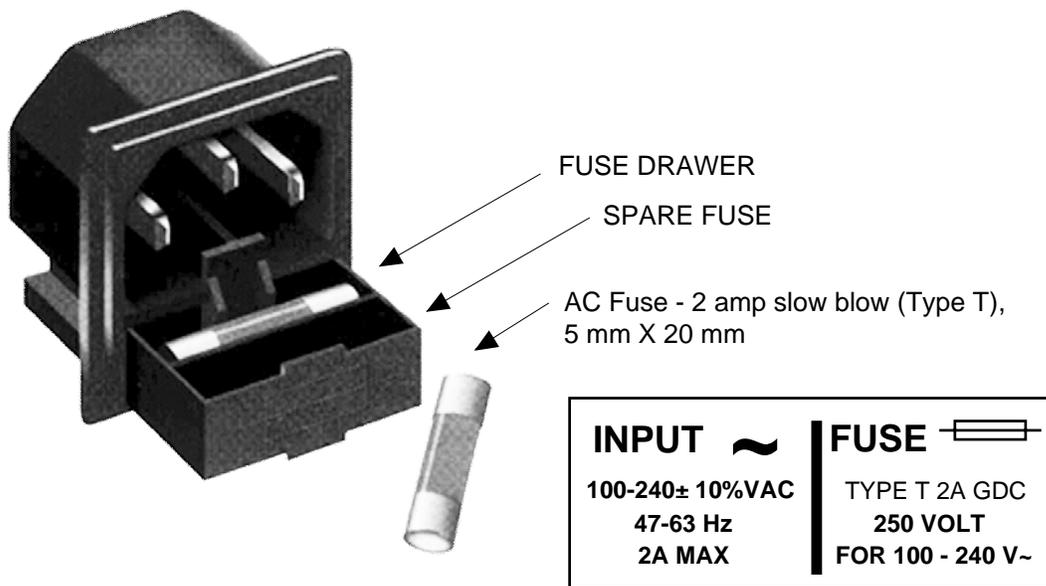

FIGURE 2.4 Fuse Location and Spare Fuse
8. **AC FUSE** - The AC fuse is a 5 mm X 20 mm, 2 amp slow blow (Type T) and is inserted in the far slot in the drawer below the AC input as shown in Figure 2.4. There is a spare fuse in the near slot. If a fuse continues to open, the power supply is most likely defective.